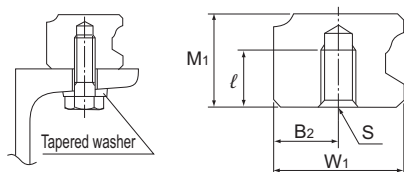

Fig.2
- (1) Determine the bolt length so that a clearance of 2 to 3 mm is secured between the bolt end and the bottom of the tap (effective tap depth).
- (2) As shown in Fig.2, a tapered washer is also available that allows GSR to be mounted on a section steel.
- (3) For model number coding, see **A1-274** to **A1-275**.